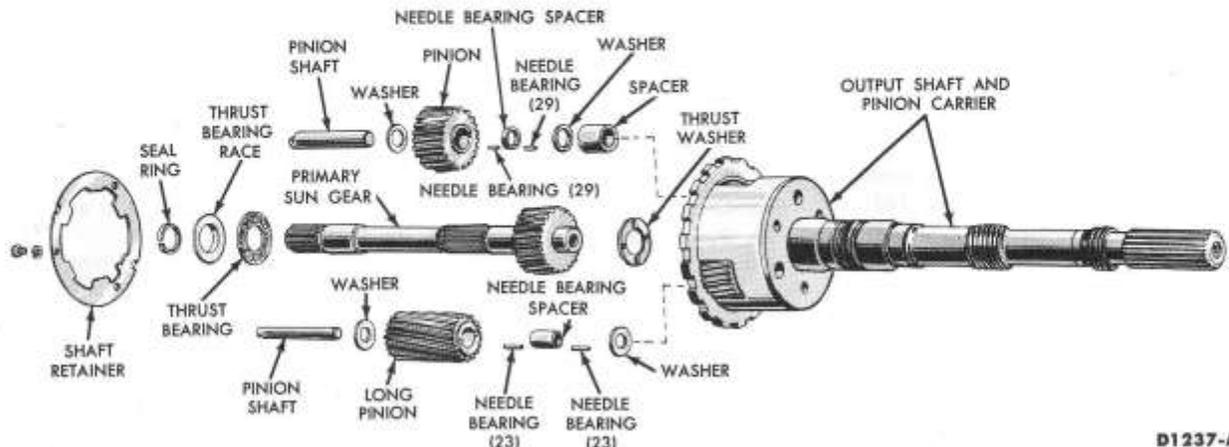

FIG. 20—Pinion Carrier and Primary Sun Gear
1. Place a spacer (Fig. 20) in a long pinion, and then insert the dummy shaft (Fig. 19) through the long pinion and needle bearing spacer.
on the primary sun gear shaft (Fig. 20). Place the bronze thrust washer on the pilot at the rear of the primary sun gear. Hold the washer in place with vaseline. **Make sure the concave side of this dished washer is toward the rear of the transmission.**
8. Place a spacer (Fig. 20) in a short pinion, and then insert a dummy shaft (Tool T59P-77059-A) through the gear and needle bearing spacer. Install a row of 29 needle bearings and a thrust washer at each end of the gear. Retain the washers in place with vaseline.
9. Place a short pinion spacer (Fig. 20) in the pinion carrier. **To maintain pinion carrier balance, the short pinion spacers must be of the same material.** Insert an extra pinion shaft (upside down) through the bottom of the pinion carrier and into the spacer. Hold the shaft so that it is flush with the top of the spacer.